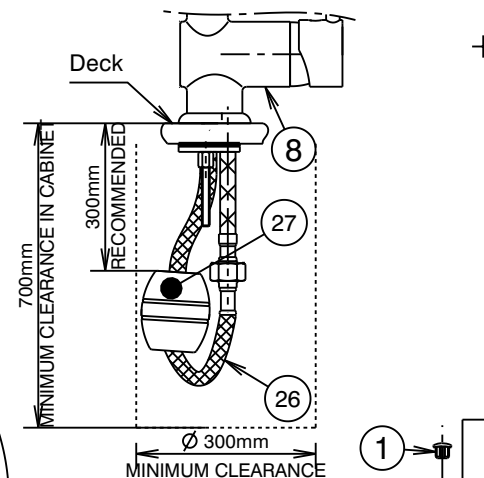

Fig.2
- 1) Check that spray head (33) together with washer (32) is assembled into conical nut (31) of hose (26). From fixing pack fit 'O' ring (9) and studs (29) into base of mixer body (8) as shown.
- 2) **Mixed Water Outlet Tail Connection:** If outlet tail (13) is not installed into mixer body (8), apply suitable lubricant to 'O' ring (10). Fit outlet tail (13) into the centre outlet hole in base of mixer body (8). Hand tighten the tail, ensuring the 'O' ring (10) has fully entered the sealing bore to provide a watertight joint.
- 3) **Flexible Tail Mixer Connections:** Apply suitable lubricant to 'O' rings (21). Fit flexible tail (20) (with red indication) into the hole marked as 'H' at the bottom of mixer body (8). Hand tighten the tail, ensuring the 'O' ring (21) has fully entered the sealing bore to provide a watertight joint. Fit other flexible tail (with blue indication) into remaining hole in a similar manner.
- 4) Insert the inlet connection end (19) of each flexible tail (20) then the connection end (14) of outlet tail (13) followed by the free end (18) of hose (26) through the hole in the deck. Assemble gasket washer (11) together with fixing plate (12) onto the threaded studs (29). Screw on fixing nuts (28), position the mixer (8) as required, then tighten fixing nuts (28) using a suitable spanner.
- 5) Ensure washer (17) is fitted into outlet of adaptor (16) then screw free end (18) of hose (26) into adaptor & tighten using a suitable spanner, taking care that hose is not twisted when tightened. With hose (26) unobstructed & hanging freely in its retracted position in the cabinet (Fig.2), fit hose weight (27) onto hose (26) and position it so that the hose (26) can extend sufficiently when spray head (33) is pulled from the swivel tube (30) (Fig.2). Tighten hose weight screws using a suitable screwdriver.
- 6) **Flexible Tail Inlet Connections:** Connect the flexible tails (20) to the hot and cold isolating stop taps. Hand tighten the connecting nut (19) until rubber washer contacts the sealing face of the connection end, then tighten firmly using a suitable spanner to provide a watertight joint. **Important:** Flexible tails must not be kinked, twisted or in tension when installed. (Minimum Bend Radius:- 50mm)
- Minimum clearance requirement (Fig 2), underneath the deck to allow the Pull-out hose and weight to move freely.